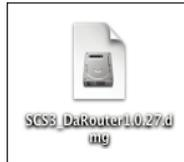

Figure 5.28
1. Double click the DaRouter compressed file. (Figure 5.28)